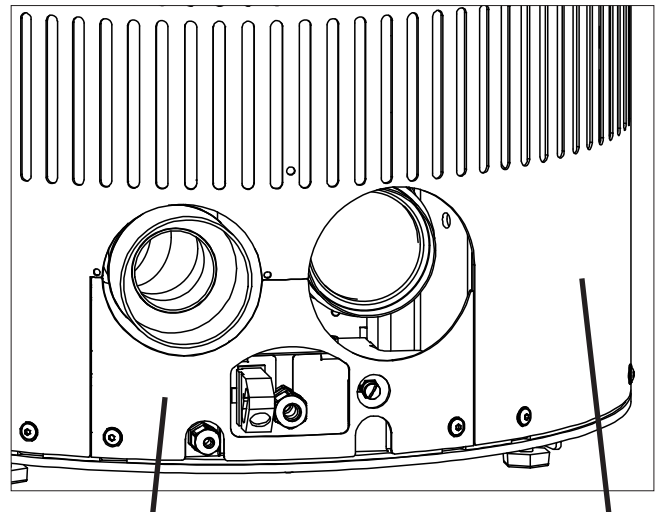

Fig.2 Panel Lower rear wall
- Dismount the lower rear wall and panel (Fig.2)